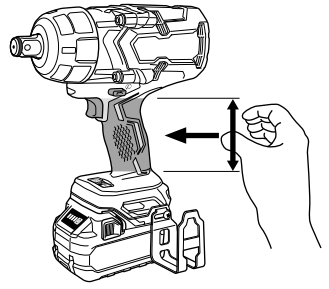

Fig. 1
4. **Make sure to securely hold the tool during operation. Failure to do so can result in accidents or injuries. (Fig. 1)**